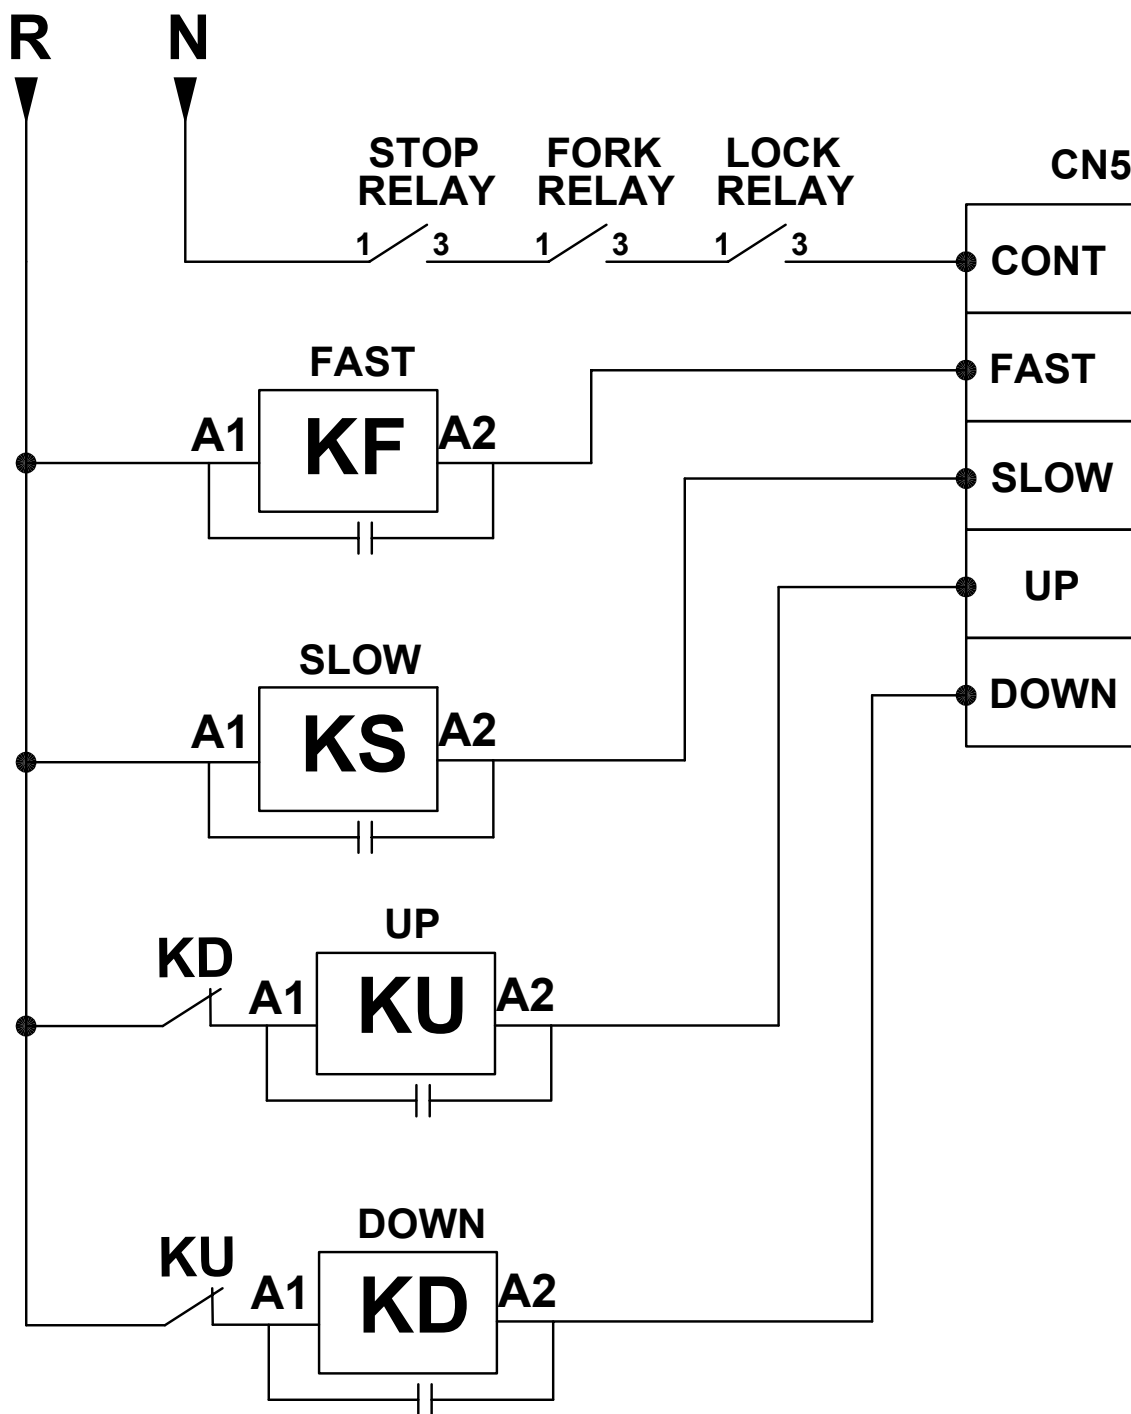

Figure 21.0 - Two-Speed System Connections
The terminals of operating the Two-Speed System with contactors are wired and connected as illustrated in Figure 21.0.
- The motion signal terminal (CN4) is connected as illustrated in Figure 21.0.
- For more safety, there is an external electrical interlock between Up and Down contactors as illustrated in Figure 21.0.